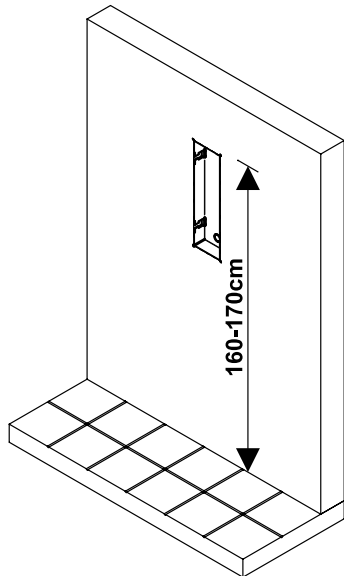
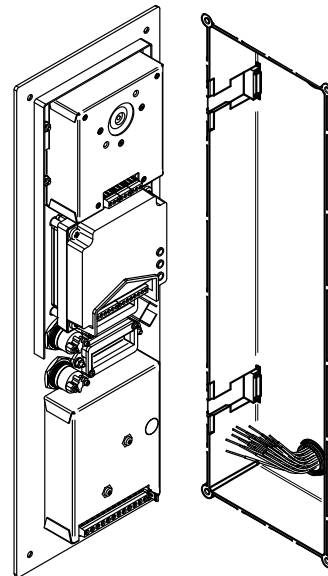

Fig. 1 -
Fig. 2 -
1. Embed the flush mounting box into the wall (160-170 cm between the top of the box and the floor level as shown on the **Fig. 1**) passing the cables (**Fig. 2**) through a previously opened hole in the box;